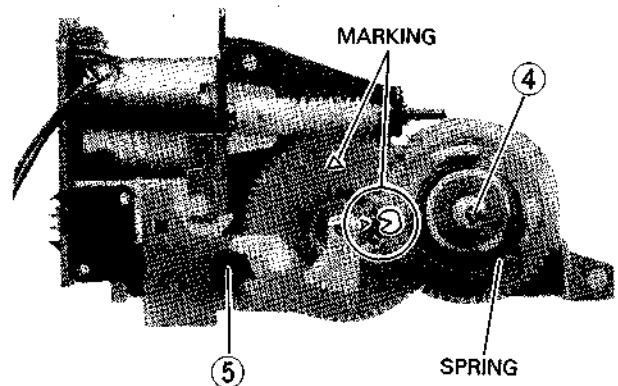
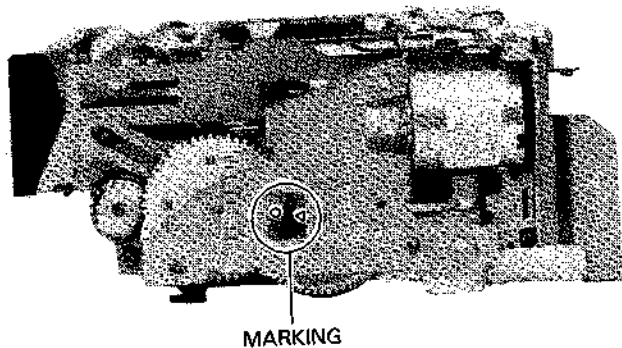

Fig. 11 Drive Gear (II)
Fig. 12 Marking on Gear
- * Position the triangular marking on the drive gear (R) so that it faces the worm gear. (See Fig. 11). The (O) and triangle can also be seen from the outside so that correct position can be checked after reassembling the motor block. (See Fig. 12)
- * Align marking (▷) on drive gear (R) with projection (⊖) on the clutch gear. (See Fig. 11)
- * Attach the spring on the clutch gear to both gears (See Fig. 11)